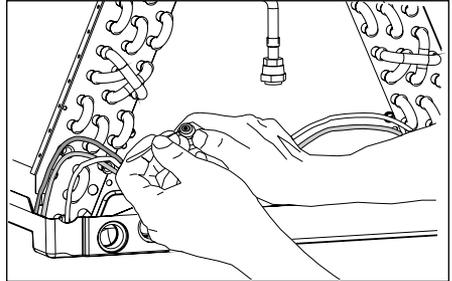

Figure 10. Removal of Orifice
4. Insert a light-gauge wire hook between the distributor body and the restrictor orifice to lift the orifice out of the body. (See **Figure 10**) Carefully remove the restrictor orifice being careful not to scratch either part.